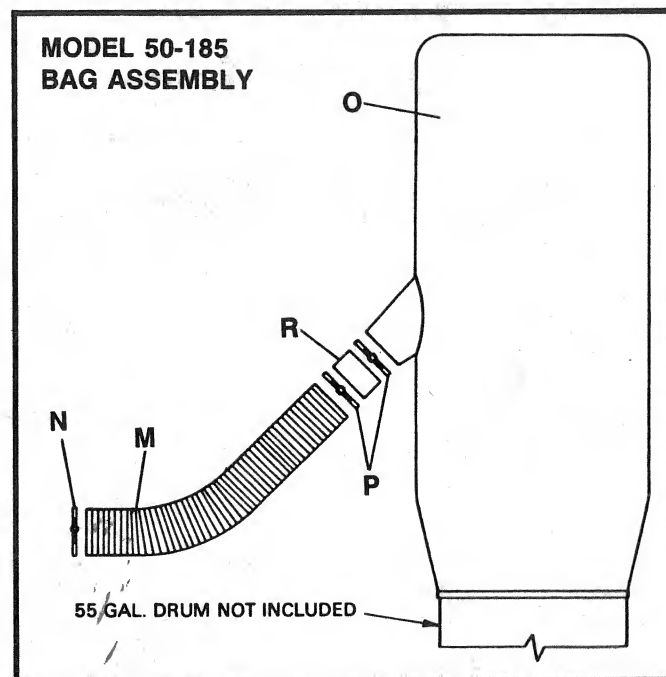

Fig. 3
9. After placing the unit right side up on the drum, attach the discharge hose (M) Fig. 3, directly to the blower using clamp (N).
10. Attach the other end of discharge hose (M) Fig. 3, to the dust bag (O) using the two clamps (P) and hose sleeve (R).